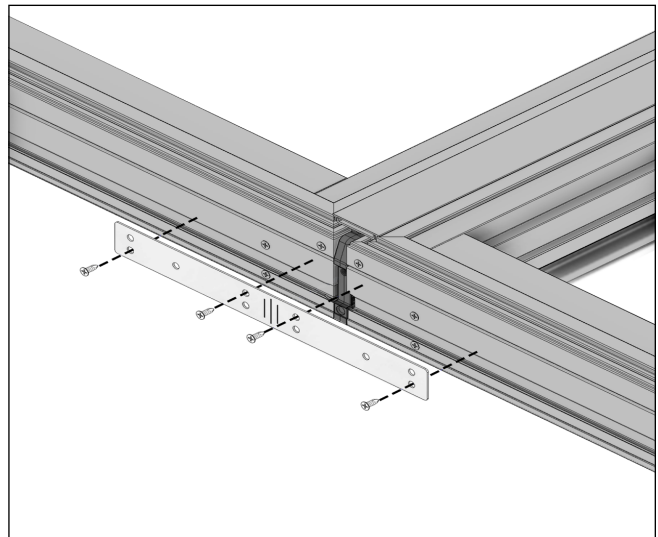

Figure 12
2. Remove all shipping straps from mull joints. See Figure 12.